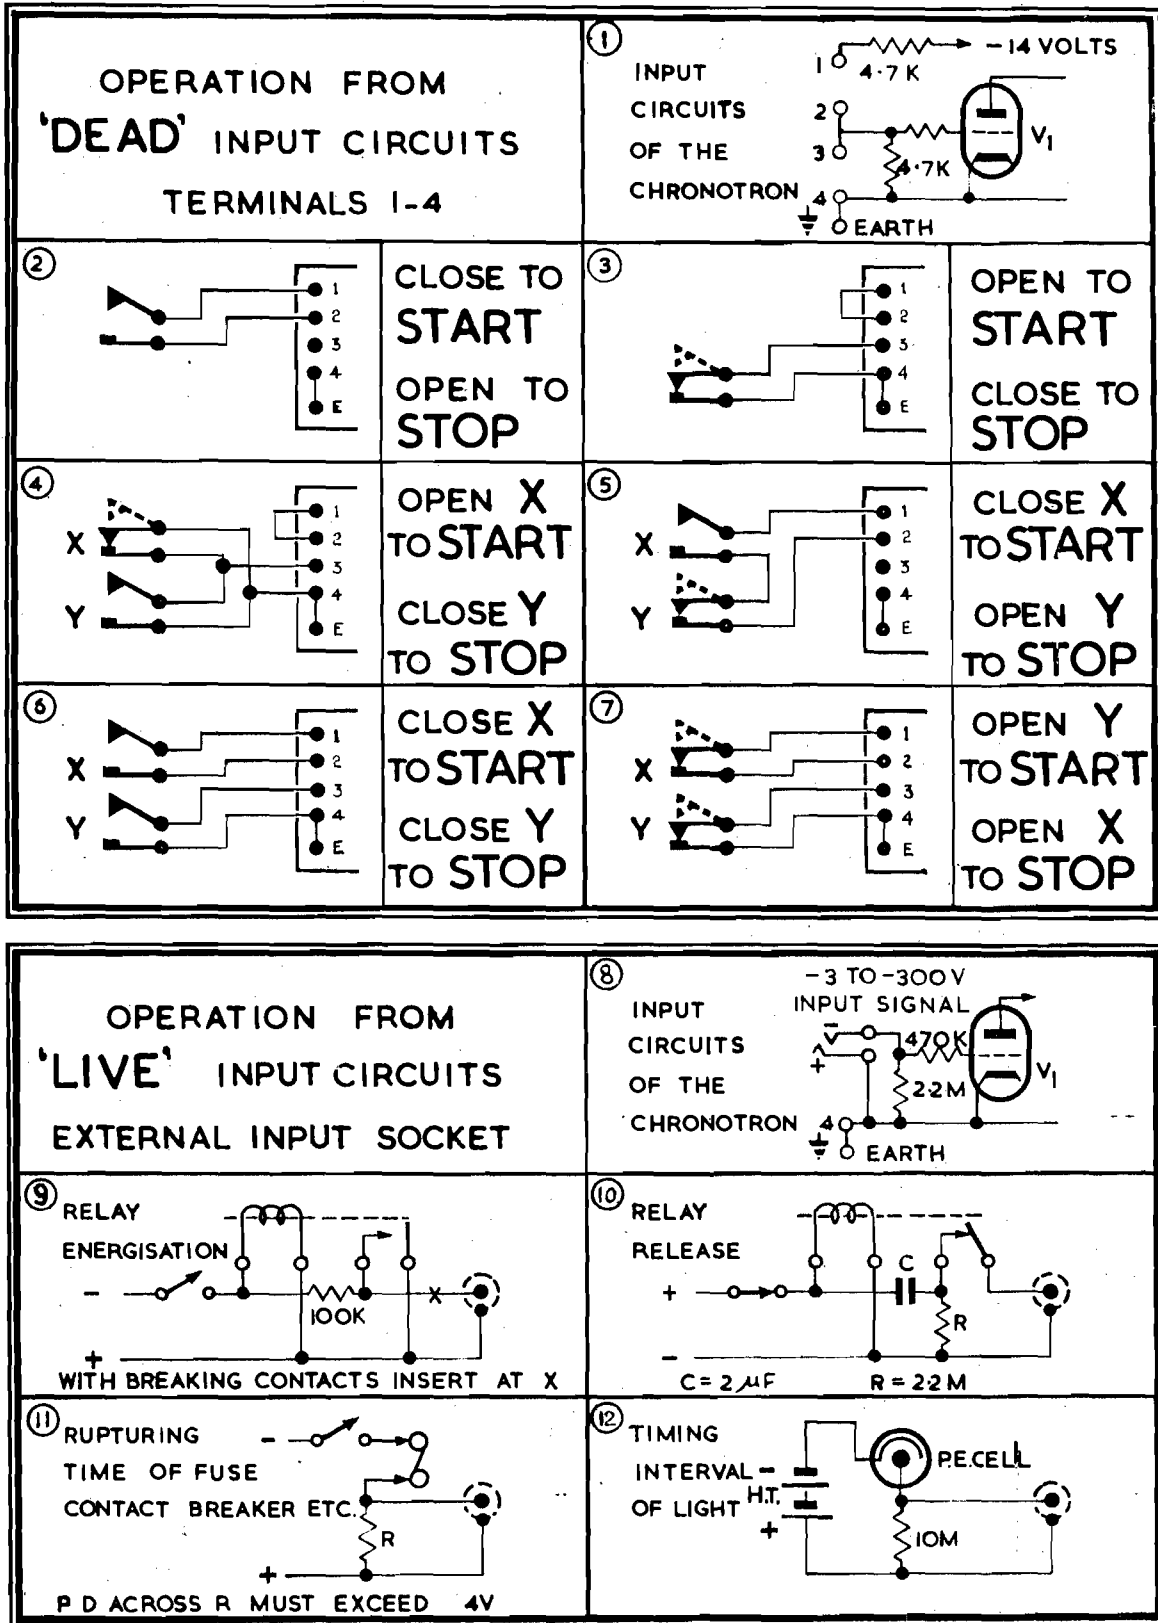

FIG. 1. METHODS OF CONNECTION
The input circuit of the CHRONOTRON under these conditions is shown in figure 1(1) on page 4; it will be seen that the general principle is that a connection between Terminals 1 and 2 initiates the timing operation, which can be stopped either by breaking this connection or by short-circuiting the signal at terminals 3 and 4.
From this, figures 1(2) to 1(7) should be self-explanatory; they illustrate six possible combinations of contacts. The terminals must never be connected to any 'live' circuit — that is, one including a voltage source of any kind.
The input circuit under these conditions is shown in figure 1(8), page 4. The general principle is that with any applied *negative* voltage less than 1.0, nothing happens; with *negative* voltages between 1.0 and 3.0, the action of the instrument is indeterminate; the duration of any *negative* voltage greater than 3.0, no matter how much greater, is timed with full accuracy. Input resistance is 2.2 megohms.
Figures 1(9) to 1(12) show several typical methods of measuring voltages generated in live circuits. It may be helpful to take two of these applications in detail.
In figure 1(9) it is required to time the interval between the application of the energising voltage to a relay and the operation of its contacts which may normally be either closed or broken. The actual energising voltage is used to operate the CHRONOTRON, and the contacts either disconnect or short-circuit this voltage, as the case may be. The resistor is introduced so that short-circuiting the CHRONOTRON input does not also short-circuit the power supply.
Figure 1(10) shows the opposite case where it is desired to measure the interval between the disconnection of the energising voltage and the return of the contacts to their normal position. In this case the relay voltage starts at some real value before disconnection, and ends at zero after disconnection and the capacitor must be introduced so that the *change* of voltage operates the CHRONOTRON. The capacitance in μF should be equal to, or greater than, the expected time interval in seconds. It will be realised that the insertion of a capacitor converts the cessation of a real positive voltage into a temporary negative-going voltage and it is this latter component which actually operates the CHRONOTRON.